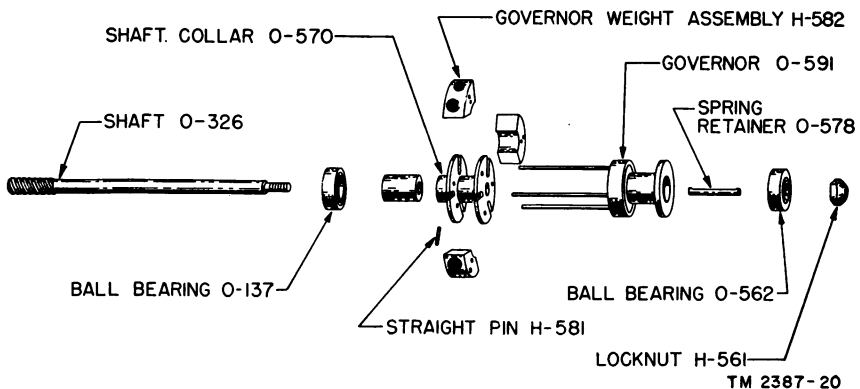

Figure 21. Governor assembly, exploded view.
- (5) When replacing the cover to the camera body, move the governor shaft collar (fig. 21) to either of its extreme positions and align ball bearing O-507 (fig. 25) inside the cover with the corresponding extreme position. The ball bearing moves with the rack and is controlled by the governor control knob.
- (6) Replace the cover on the camera body, and replace the key and the drive coupling.